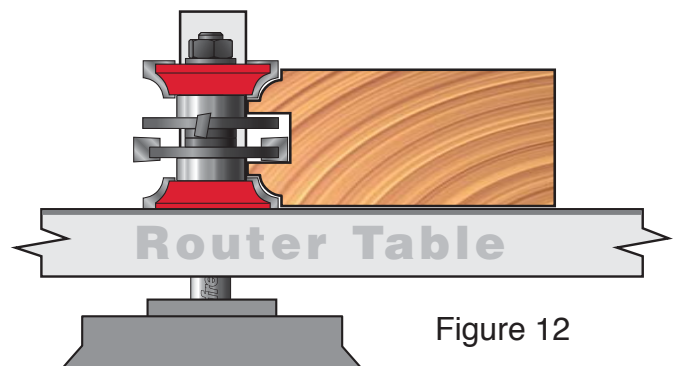

Figure 12
- Use a straight edge to align the router table infeed and outfeed fences with the bearing on the bit, then make the second pass (Figure 12).